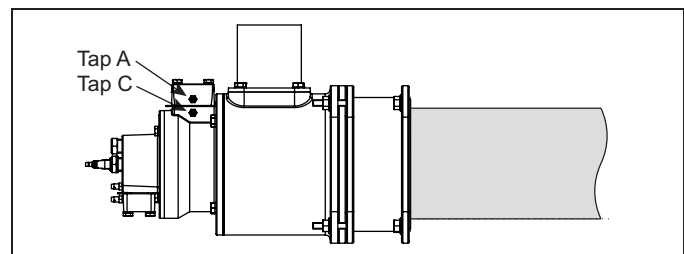

Figure 4.2. Air Taps
- a. Adjust the zone air control valve to achieve the target differential air pressure between taps A and C for the first burner. (See Figure 4.2.)